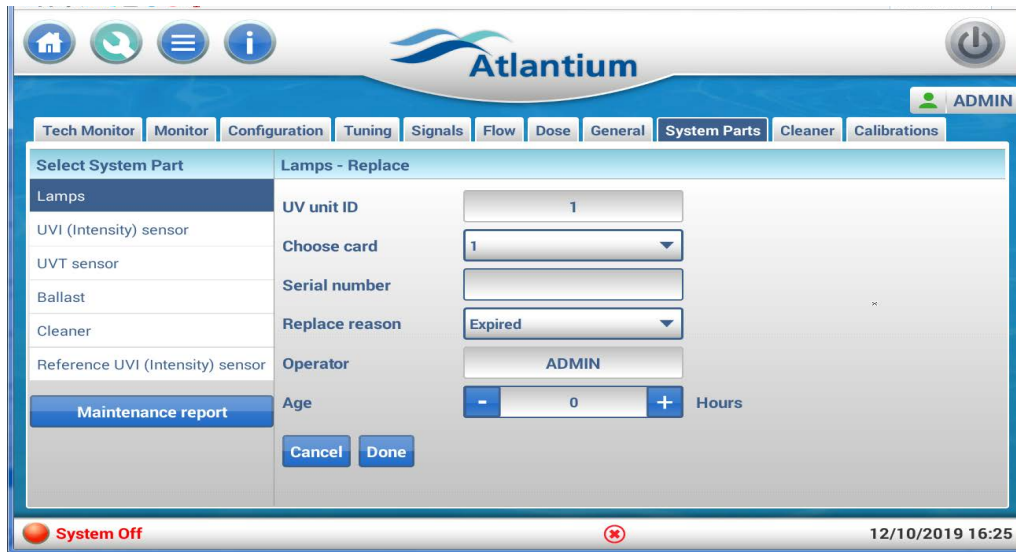

Figure 10-6: System Parts tab with Lamps selected
- Step 1.** Log in as an ADMIN user and tap on **System Parts** tab to open it (see **Figure 10-6**)